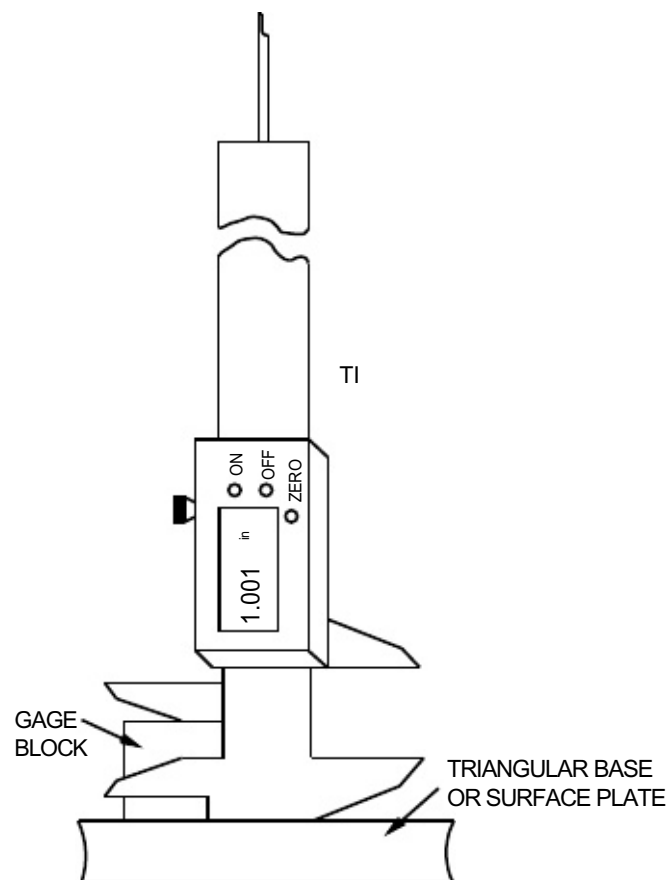

Figure 4
4.1.24 Refer to Figure 4 and gage on a 1.0 inch Gage Block. The 1.0 inch Gage Block can be substituted with one of the Gage Blocks from step 4.1.1.